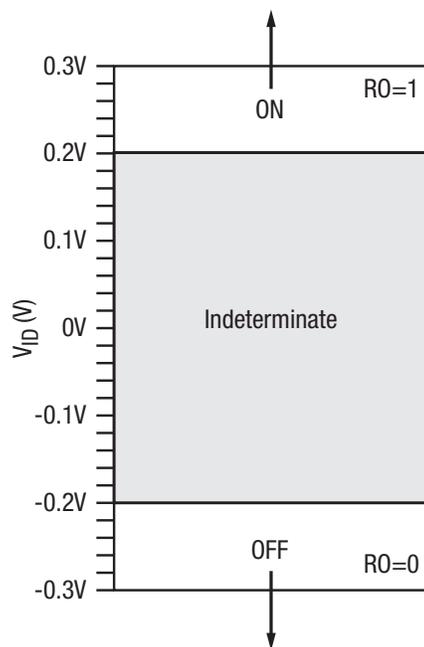

Figure 3: Standard Failsafe Receiver Sensitivity Range
range in Figure 3) which could result in the receiver output (RO) to be unknown (could be at logic high or logic low).